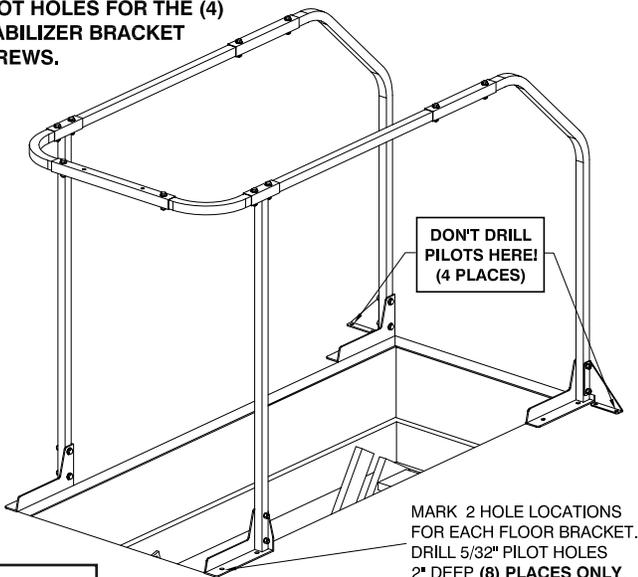

Fig. 5
5. Place the rail assembly over the ladder opening. Align the brackets as shown and mark the hole locations for the floor brackets (Fig. 5), then drill $5/32"$ pilot holes at each location $x 2"$ deep. Note: Do not drill pilot holes for the stabilizer brackets